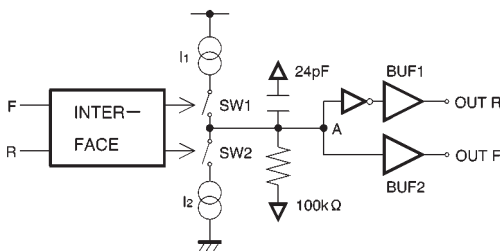
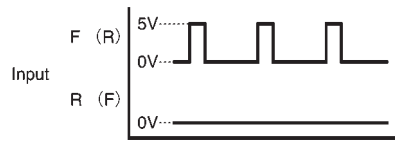

Fig. 2
Fig. 3
(1) Fig. 3 shows the inputs from the digital servo IC for CH1-CH3 drivers (all drivers except the spindle). SW1 is on when the forward input signal (HIGH level, over 2.4V) is present. SW2 is on when the reverse input signal is present (Fig. 2)
This can be increased by inserting a capacitor between point A (pins 3, 11 and 18) and  $V_{REF}$ . The constant current ( $I_{const}$ ) given in the electrical characteristics refers to  $I_1$  and  $I_2$  in Fig. 2.